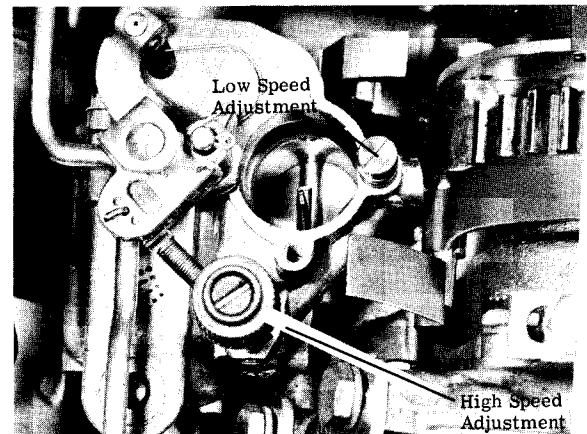

Figure 2. Slow (Idle) Speed Adjustment
1. Place throttle in SHIFTING RANGE or SLOW position and gear shift, if so equipped, in FORWARD gear. Turn idle adjustment screw inward (clockwise) until motor starts to "load up" or slow down or fire unevenly due to mixture becoming too rich because of lack of air. Idle screw adjusts air volume only. (Figure 2) *NOTE: On 1956 and newer Mark 25 and Mark 55 only, turn screw outward (counterclockwise), adjustment opposite of previous models because of volumetric (air and fuel) control rather than air adjustment only.*